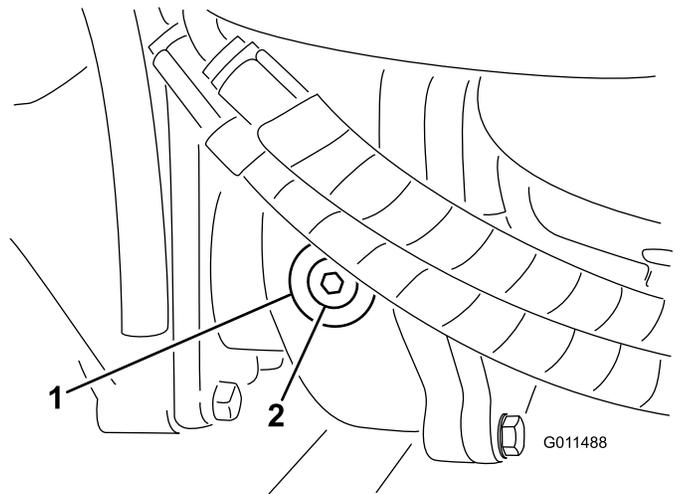

Figure 85
2. Remove the check/fill plug from the left side of the gearbox and ensure that lubricant is up to the bottom of the hole (Figure 85).